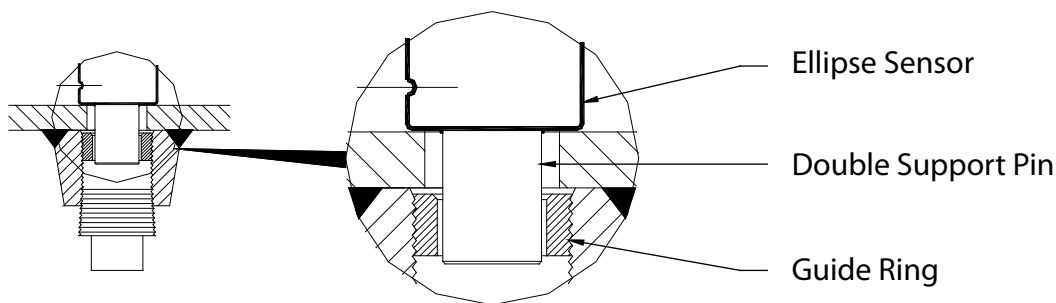

Figure 5: Double support pin
3. Install the BHR Ellipse sensor through the two holes. Make sure that the double support pin passes through the guide ring. See Figure 5.